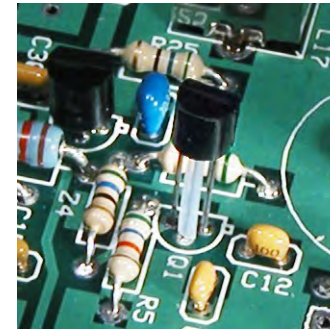

Figure 33. Installing Q1 with Teflon Spacer.
- __C13, .047 μ F (473) \Rightarrow __C12, 15 pF (15)
- __C14, 22 pF (220)
- Install transistor Q1 (NTE108) near U2 so that the Teflon tubing acts as a spacer to hold the transistor above the PCB. One end of the tubing should contact the bottom of Q1's case and the other end should rest against the top of the circuit PCB (see Figure 33).